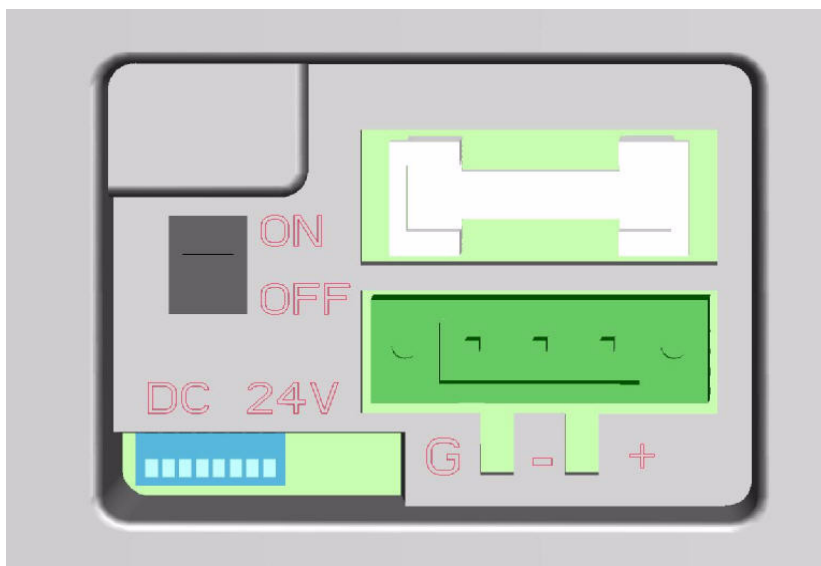

Figure 2.4: Power receptor and button pin assignments
Step 5: Push the power button to power on the system as the figure 2.4.